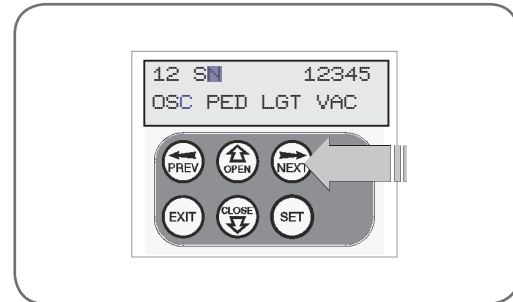

fig 33
2. Press NEXT to reveal the serial number (**Fig. 33**). The serial number display is provided for additional means of identification. The transmitter in this example has S/N: 12345.